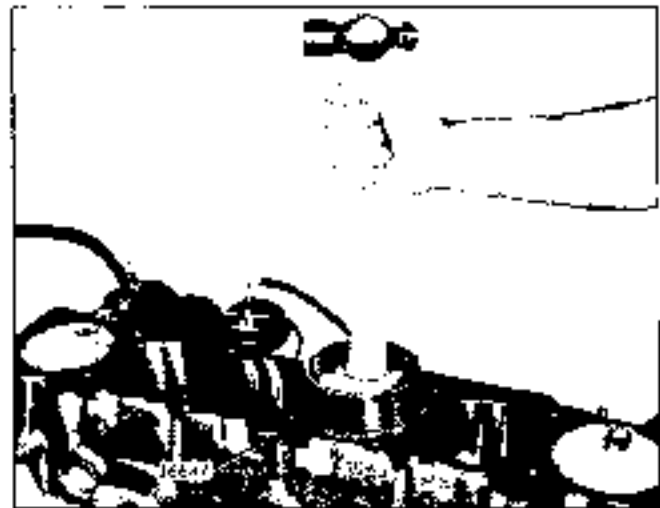

Fig. 6-65 Installing Piston in Cylinder
2. Using piston ring compressor J 5547, insert rod and piston assembly into cylinder so notch in top of piston is facing front of engine (Fig. 6-65).